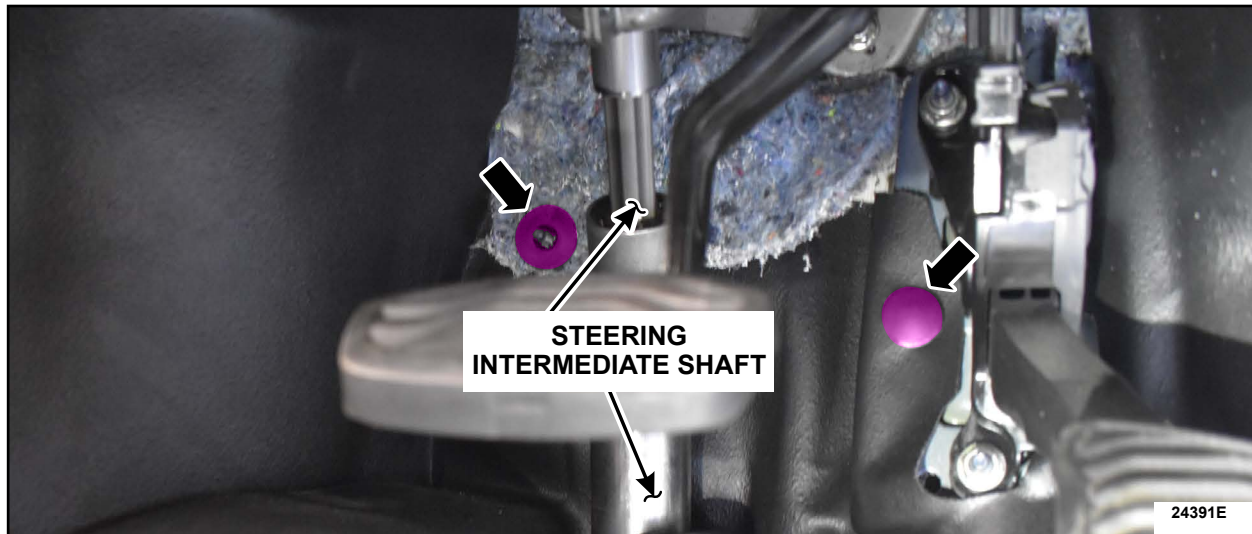

FIGURE 22
10. Remove the two (2) retainers, shown in Figure 22, that secure the flooring to the dash panel.